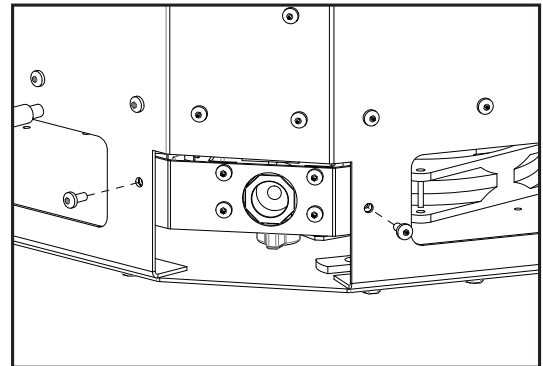
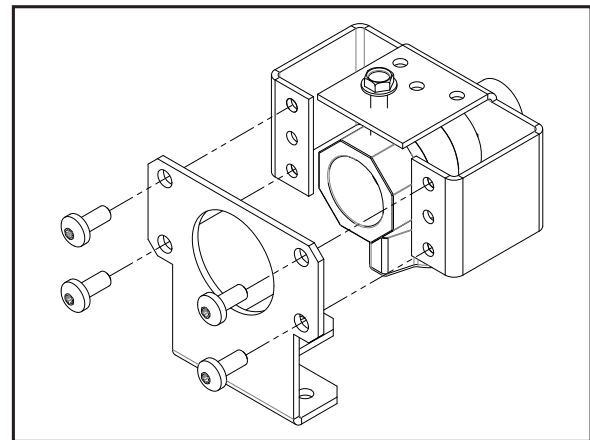

Figure 88: Gas Plate Disconnection
Figure 90: Gas Adapter Connection
1. Disconnect the two (2) T20 screws securing the ball valve plate (see Figure 88).
2. Disconnect the four (4) T20 screws securing the ball valve.
3. Loosen off ball valve jam screw and reattach ball valve cradle onto the relocation plate (included in the manual bag, refer to Figure 90 for proper geometry and orientation). Re-tighten jam screw and ensure ball valve is secure.